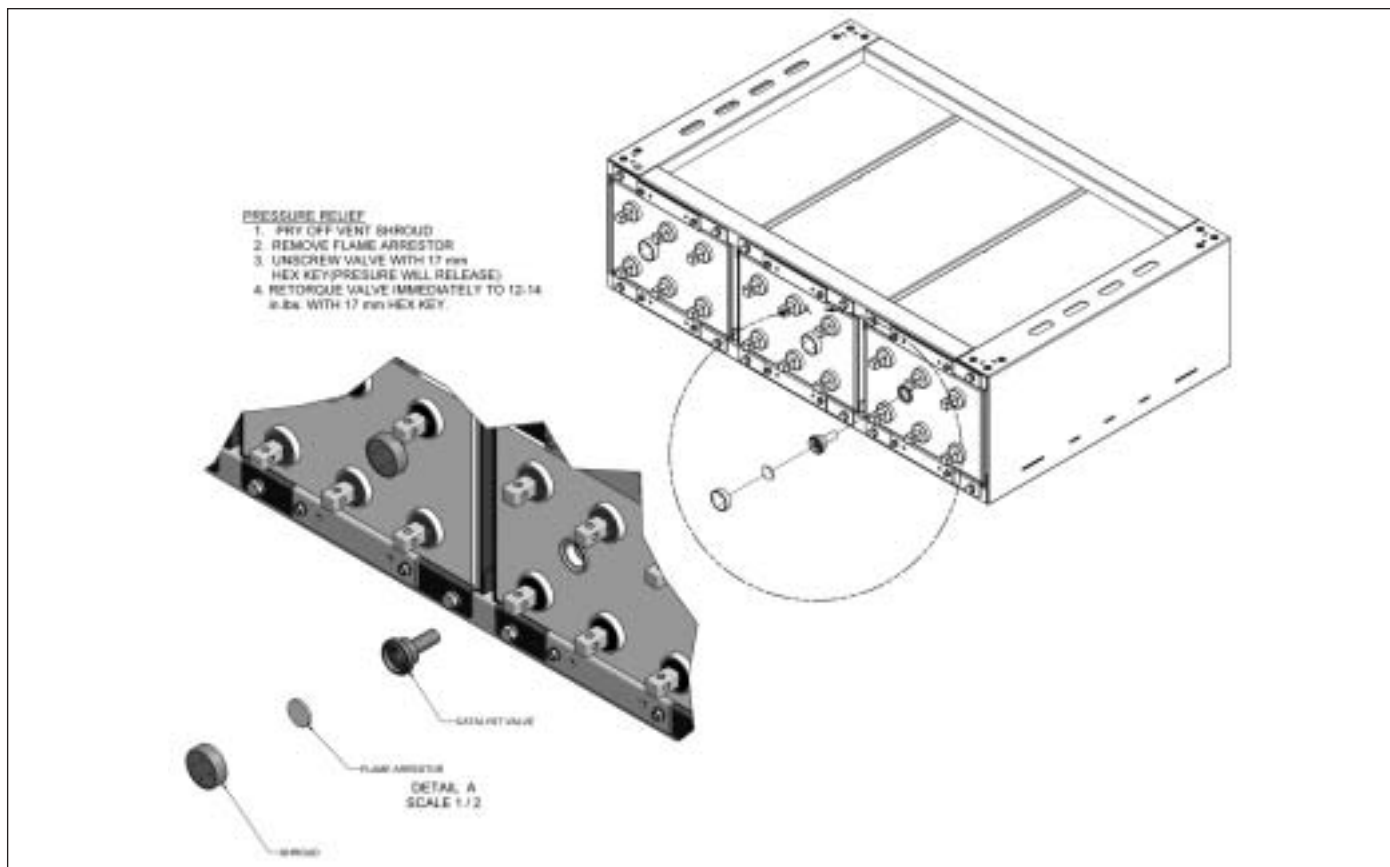
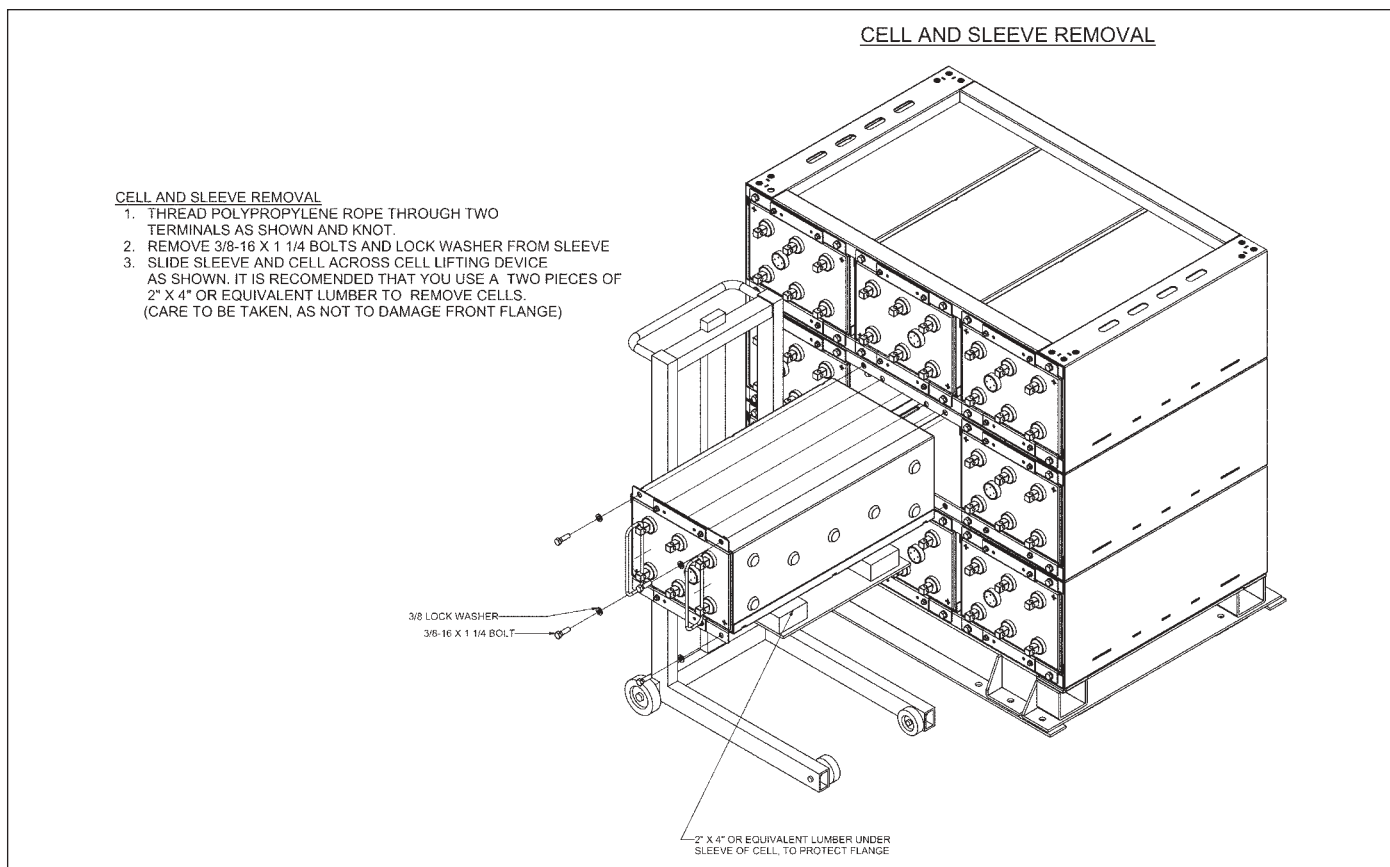
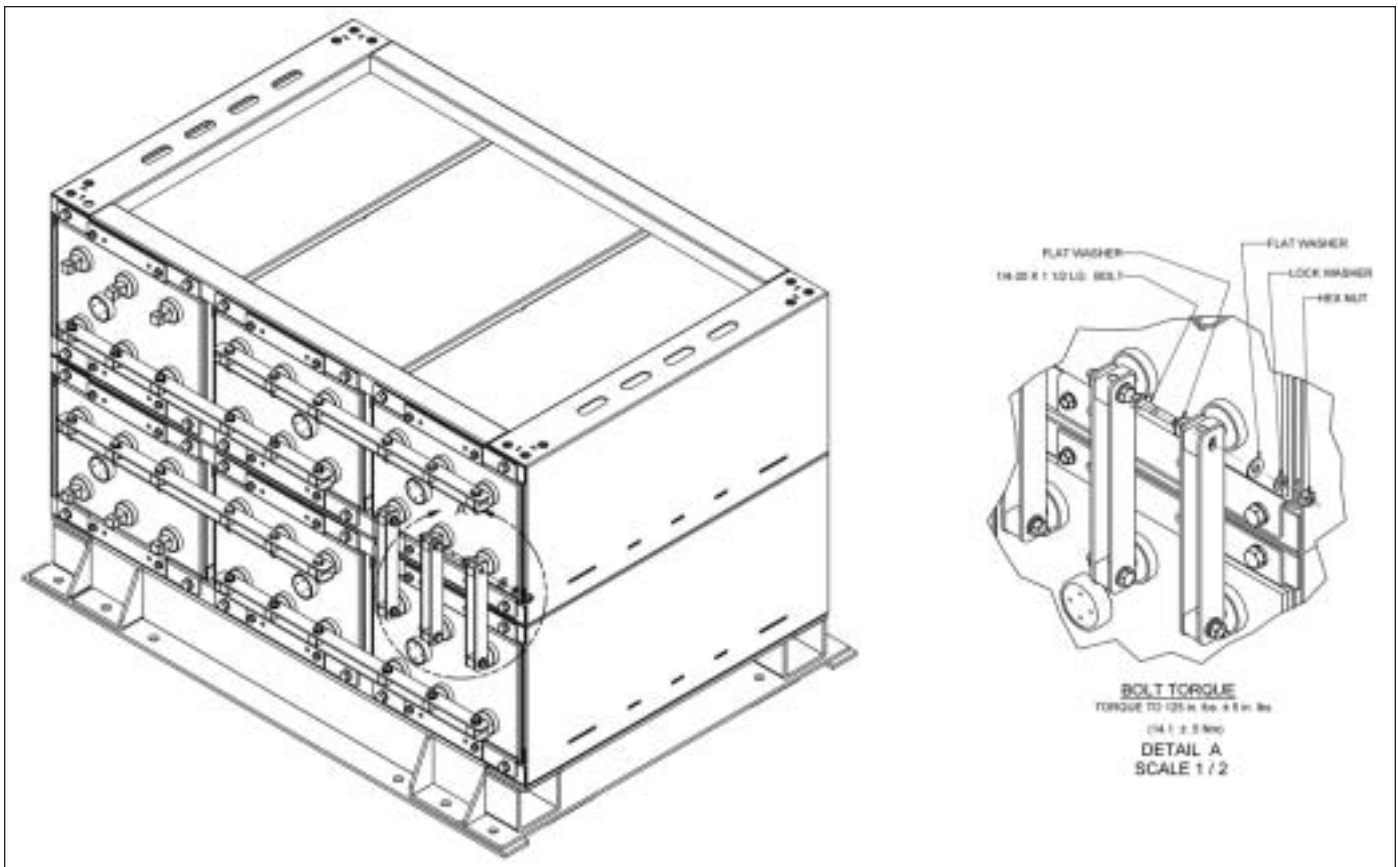

Fig. 8-1
Fig. 8-2
Fig. 4-2
2. Refer to Fig. 4-2, pg. 10, Fig. 8-1, pg. 7 and Fig. 8-2, pg. 7 for specific instructions.